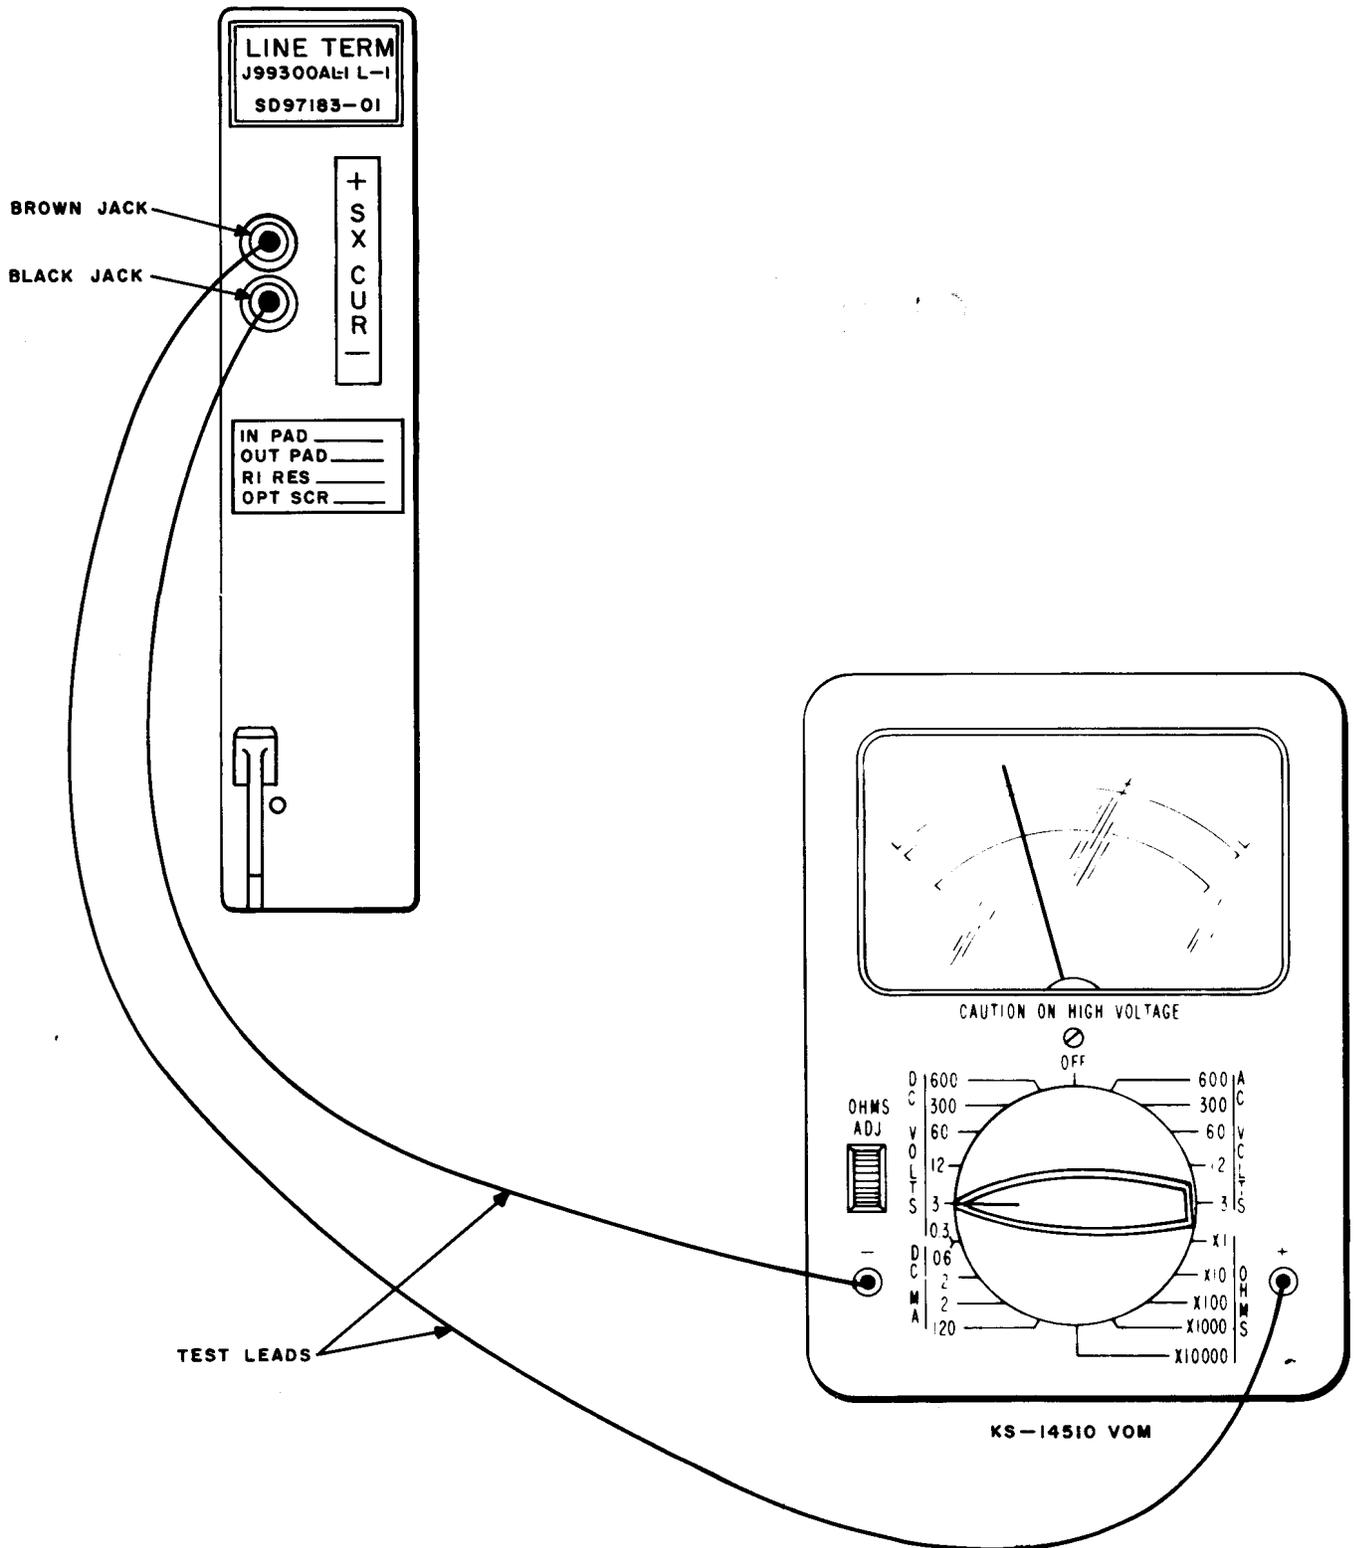

Fig. 1—J99300AL Line Terminating Unit—Measurement of Line Current
- 3 At the line terminating unit connect the VOM red test probe to the SX CUR + (brown) jack and the black test probe to the SX CUR - (black) jack (Fig. 1).